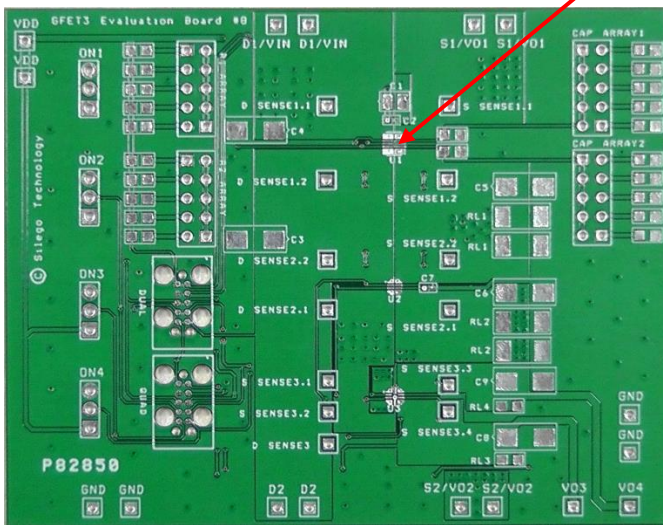

Figure 3. SLG59M1606V Evaluation Test Board
2.3. The D and S pins carry significant current. Please note how the D and S pads are placed directly on the power planes in Figure 3, which minimizes the RDS(ON) associated with long, narrow traces. The D and S pins dissipate most of the heat generated during high-load current condition. The layout shown in Figure 3 is illustrating a proper solution for heat to transfer as efficiently as possible out of the device.